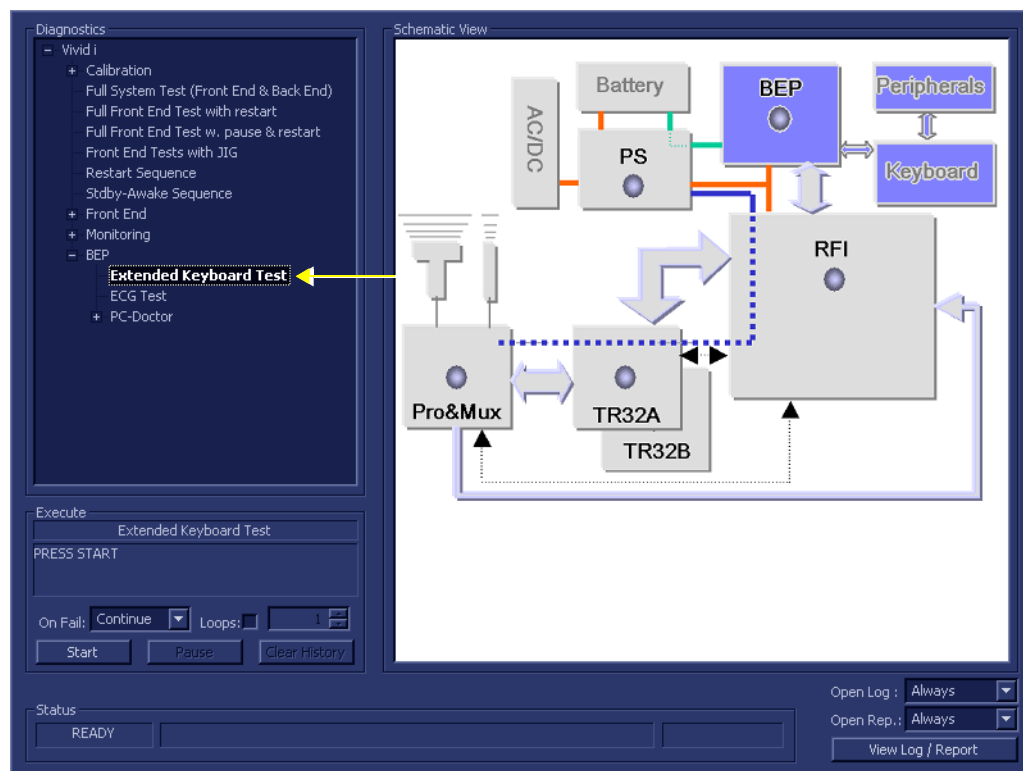

Figure 7-74 Extended Keyboard Test
- 1.) In the *Diagnostic Test* window, trackball to **Extended Keyboard Test** in the list of *BEP* tests available for selection from the Diagnostic Test Tree (see Figure 7-74 below) and press **Set**. The Extended Keyboard Test name is displayed under *Execute*; the relevant system components to be tested are highlighted light blue in the Schematic View (BEP, Peripherals, Keyboard), as shown below: